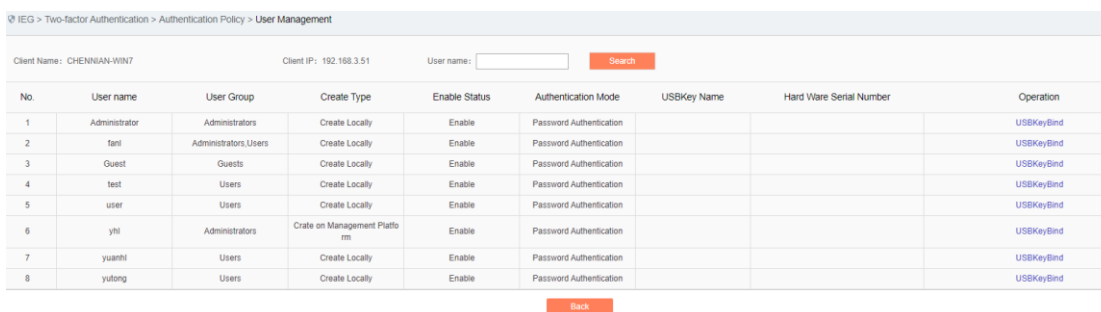

Fig.4-76
- 6) User management in the client operation column for Windows, click <User Management> to pop-up the user information reported from the client. As shown in the figure below, carry out USBKey binding, USBKey unbinding and PIN code reset for locally created users. (As shown in Fig.4-76):